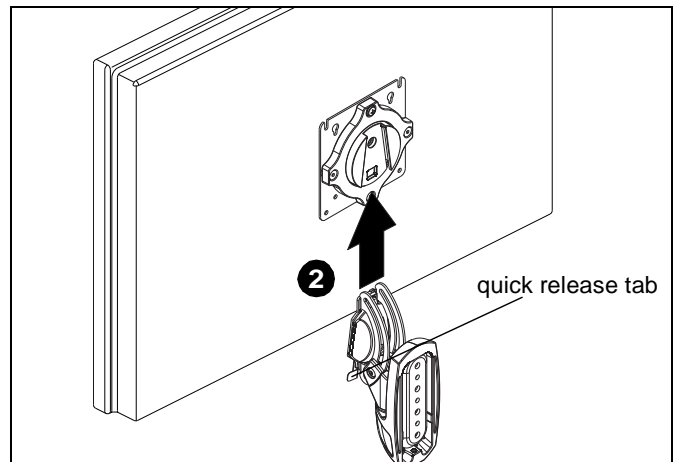

Figure 9
WARNING: Only remove display from mount when the display can be lifted up from the mount! DO NOT remove display unless the display is in the upright position! (See Figure 9)
2. Remove quick release faceplate from mount by pulling quick release lever and sliding faceplate off mount. (See Figure 9)